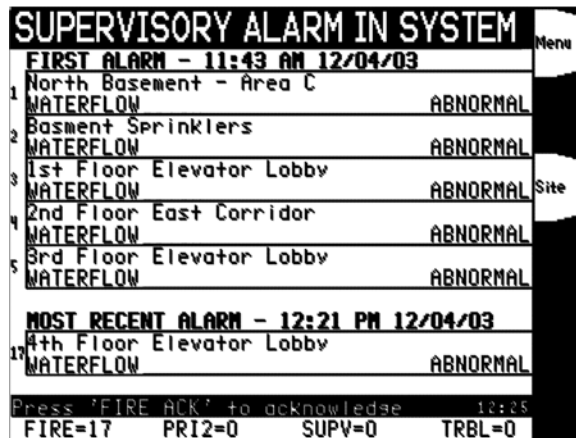

Figure 4-1. First-5-Last Display for Supervisory Conditions
1. Unlock and open the enclosure door. The display shows the supervisory condition, similar to Figure 4-1.